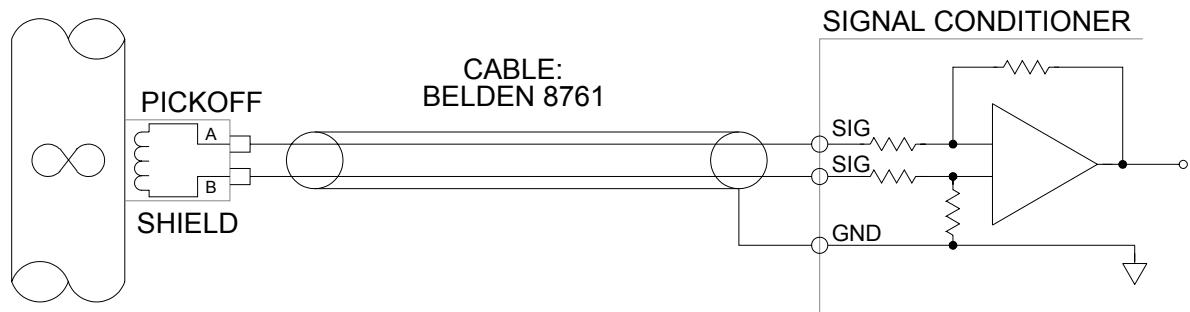

FIGURE 5. PICKOFF CONNECTION TO ELECTRONICS
4.4.7 Figures 4 shows pickoff connection to the electronics and Figure 5 shows the magnetic pickoff connections. The following rules must be observed for proper operation: